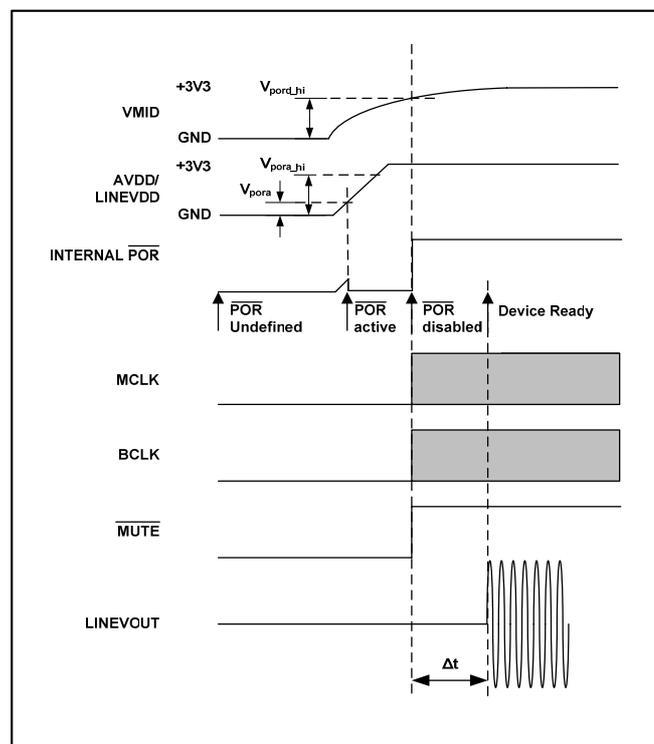

Figure 1 – Recommended Power-up sequence timing
- 3) Start MCLK and BCLK and set $\overline{\text{MUTE}} = 1$. The device will be ready to output audio Δt after a logical AND of MCLK, BCLK, $\overline{\text{MUTE}}$ and $\overline{\text{POR}}$, as shown in Figure 1.